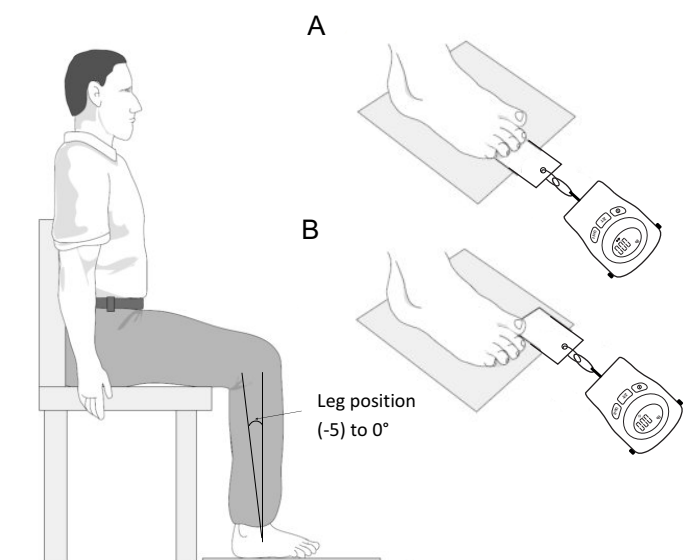

Fig. 1: Toe plantarflexor strength testing. A, Lesser toes B, Hallux
1. The patient should be seated comfortably with their leg placed at 90 degrees or inclined backwards towards the patient up to 5 degrees (Fig.1). It is best to have the leg slightly back to ensure the patient is not leaning their bodyweight onto the card whilst a test is being done.
3. Place the card under the lesser toes of the patient (A) (not under the forefoot) with the longest part of the card back towards the 5th toe
8. Repeat the test on the big toe on the same foot (B) and then repeat the tests on the patients other foot.